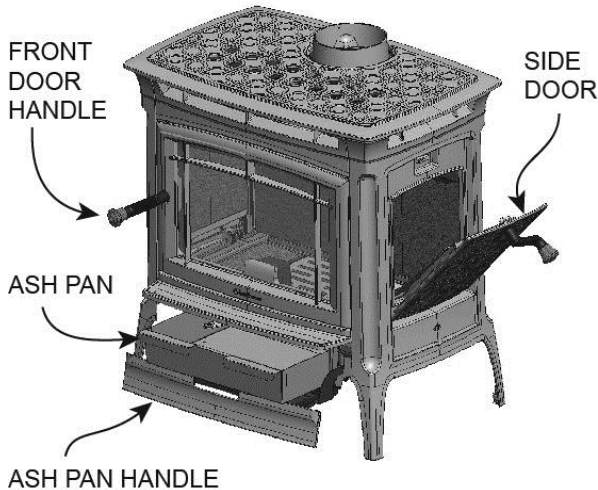

Figure 11 - Controls & Features
Before lighting any fires, become familiar with the location and operation of your stove's controls and features and learn how to use them (See Figure 11). For your own safety, do not modify these features in any way. We recommend you use fireplace gloves when the stove is in operation and hot.
**ASH PAN:** (This becomes hot during operation. It is best to remove the ash pan only after the stove cools). To access the ash pan you must open the ash door. Grip the ash door handle from the bottom (See figure 11) and rotate toward you. While holding it in the rotated position pull the handle away from the stove and lower it. When the handle stops lowering allow it to hang by letting go of it. The ash pan handle and the ash grate handle (see figure 12) are now accessible. To remove the ash pan, grip the handle, and then pull it out. The ash pan collects the ash residue from each fire and when full, allows you to remove the ash conveniently from the stove. Clear the firebox of ashes periodically. With the ash pan in position and no fuel other than dead coals in the stove pull the ash grate handle toward you. Sift the ashes through the grate in the bottom of the firebox into the ash pan or shake the ashes into the pan by repeatedly moving the ash grate in and out.